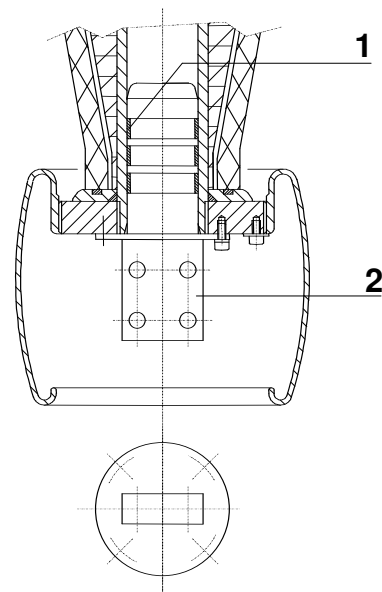
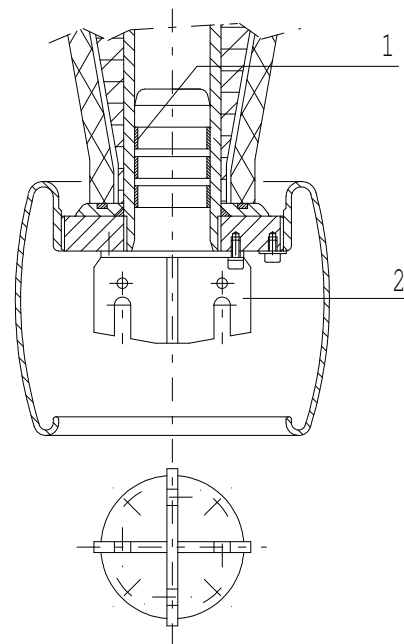

Fig. 11
Fig. 12
In this type of execution, the current in the bushing is carried out directly by the lead coming from the transformer's winding, up to the lug placed in the upper part of the bushing (fig. 11 and fig. 12).
There are some types of bottom connection terminals, upon customer request (fig. 11, 12, 13, 14), all made of copper:
- Palm type (fig. 11);
- Cross type (fig. 12);